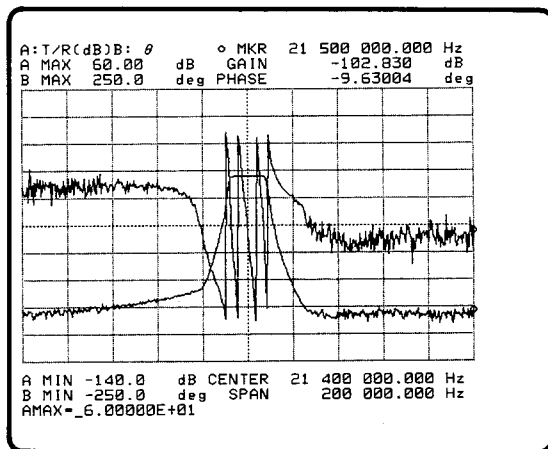

Figure 3-77. A MAX=6.00000E+01
- Press the '**A MAX (B MAX)**' softkey. A MAX=(current value) will be displayed on Keyboard Input Line as shown in Figure 3-77.